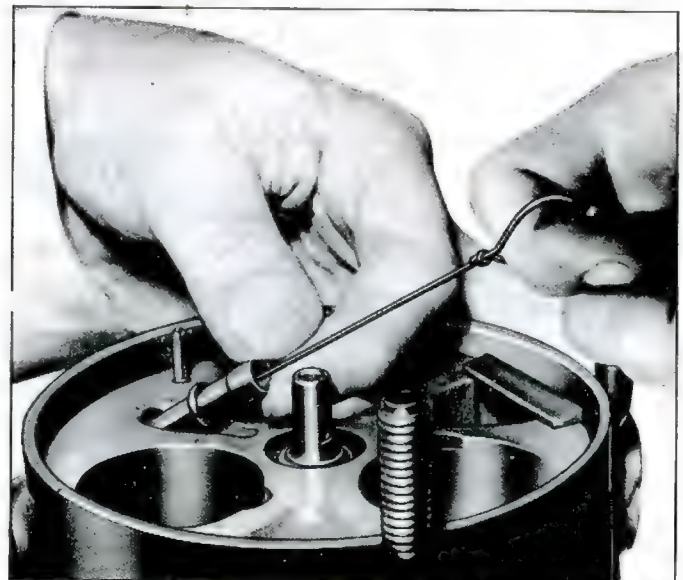

Fig. 45—Removing Oil Inlet Tube and "O" Ring
2. Remove the oil inlet tube and "O" ring with J-5139 as shown in Figure 45.